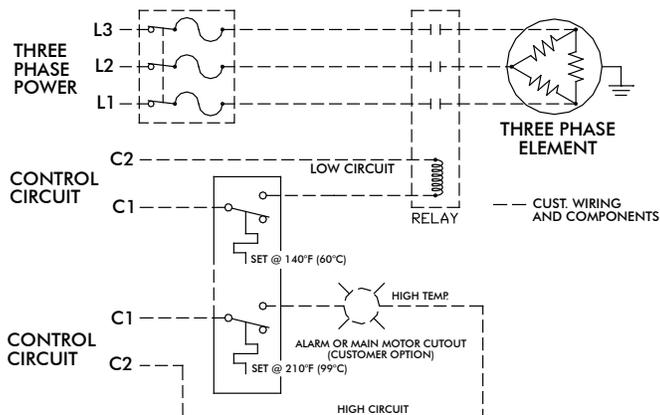

FIGURE 2
- a. Option 1, Cooling Only: Fan/pump motor is controlled by the temperature switch. See Figure 2.